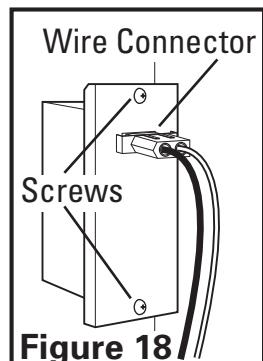

Figure 18
- Remove the two wire compartment cover screws to gain access into the wire compartment (**Figure 18**). Connect the white wire from the range hood to the white wire from the supply, and the black wire from the range hood to the black wire of the supply. Connect the ground wire from the home (green or bare) to the ground wire (green) from the hood. Use approved methods for all connections (**Figure 19**).
- Replace the wire compartment cover and tighten screws. Make sure all wiring is securely contained within the wire compartment. If the quick connect wire connector was removed from the receptacle, replace. The connector will only fit one way into the receptacle (**Figure 18**).